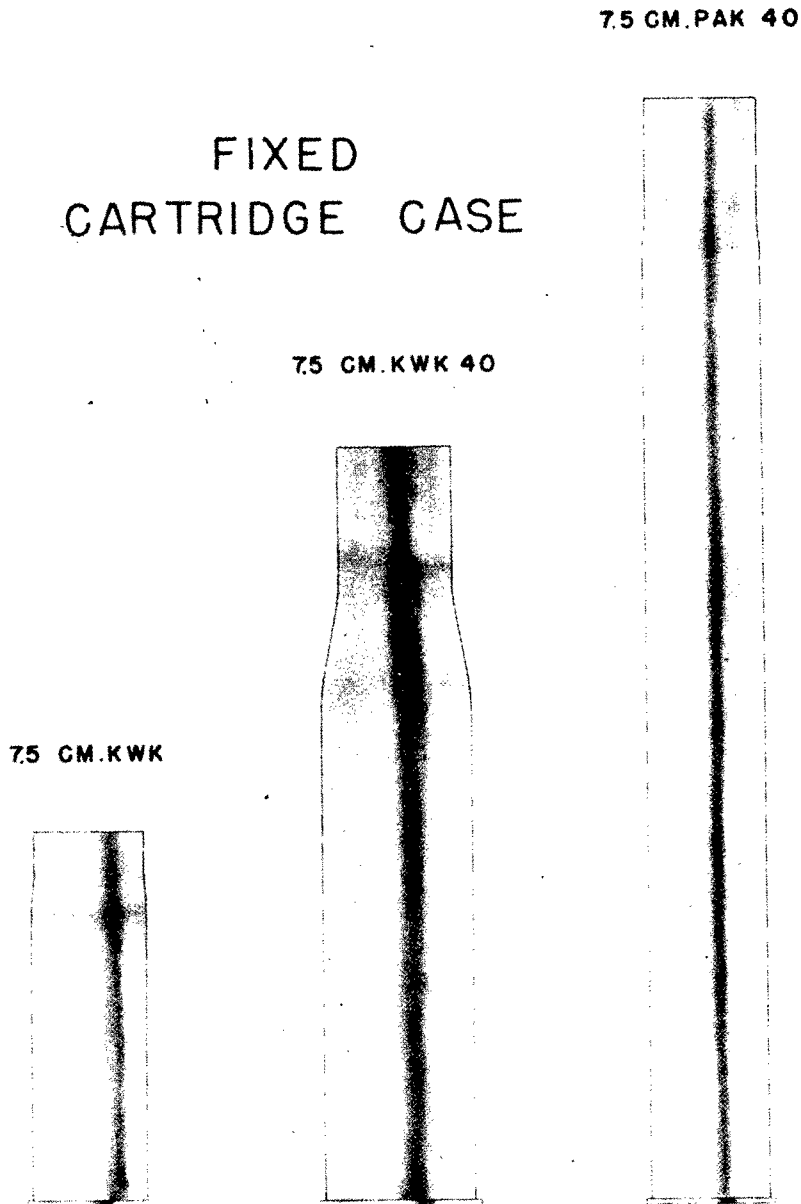

Figure 318—Fixed Cartridge Cases
**STENCILLING ON SIDE OF CASE.** The following details are arranged in the sequence in which the markings are normally found between the approximate center of the case and flange at the base. (See fig. 318.)